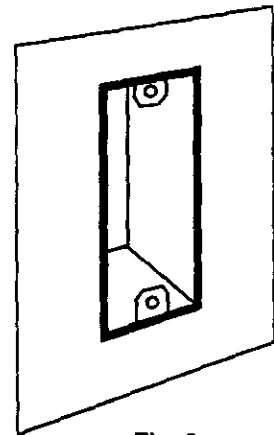

Fig. 9
10. Completed electrical box cut-out will be accurately and neatly cut (see Fig. 9).